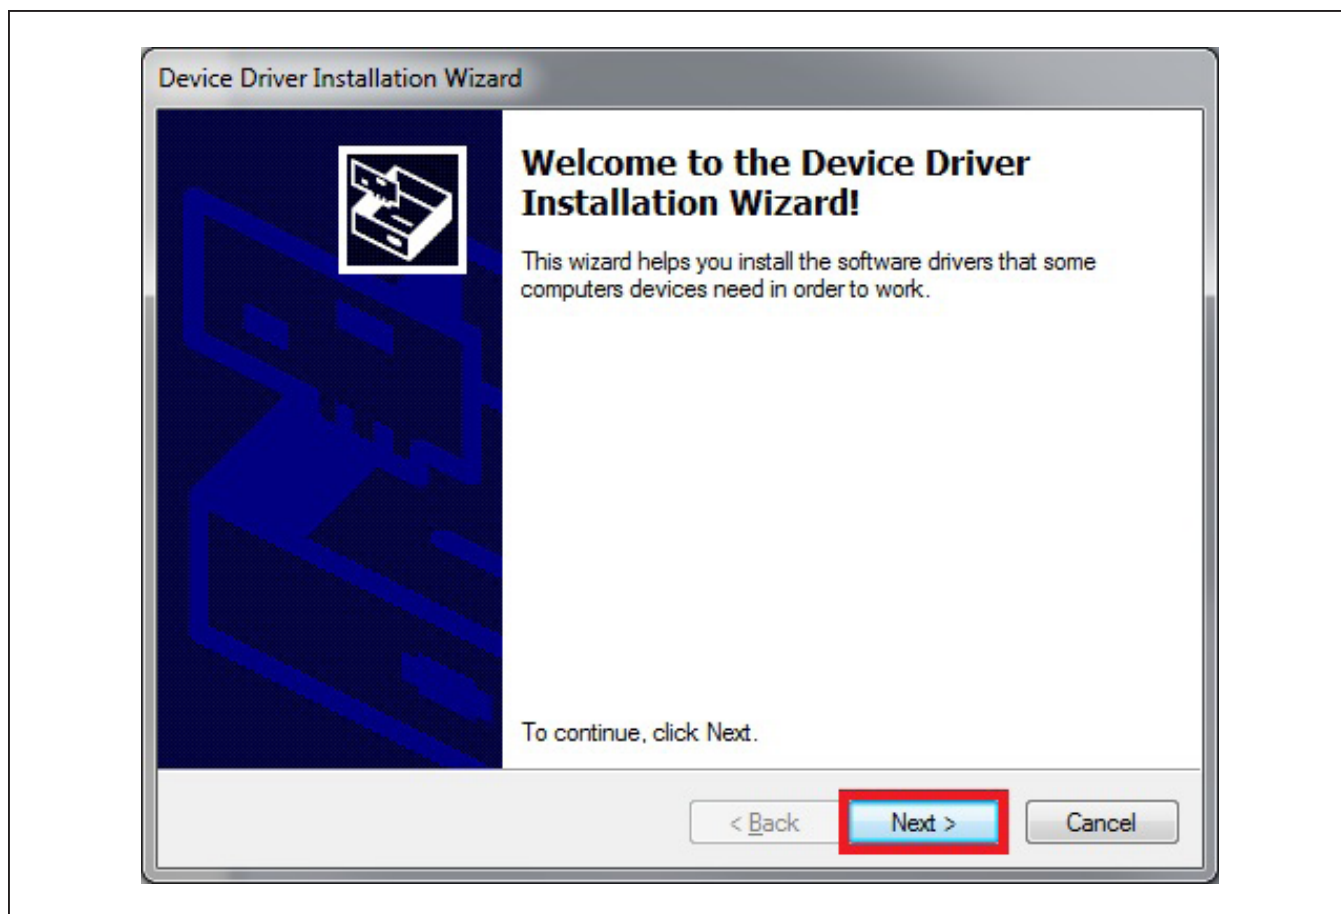

Figure 6. Device Driver
- 7) Click on **Next** when the Device Driver Installation Wizard appears (Figure 6).